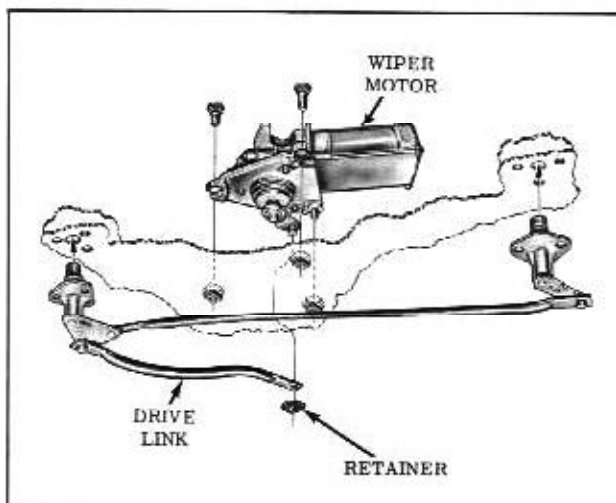

Fig. 13-115 Wiper Motor and Linkage
1. Disconnect drive link from crank arm under instrument panel by removing retaining clip (Fig. 13-115)